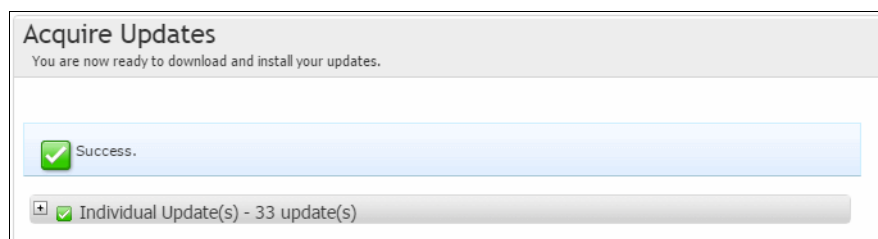

Figure 5-57 Downloads available
- 13.If the download is successful, the Acquire Updates screen will display a success message, Figure 5-57.